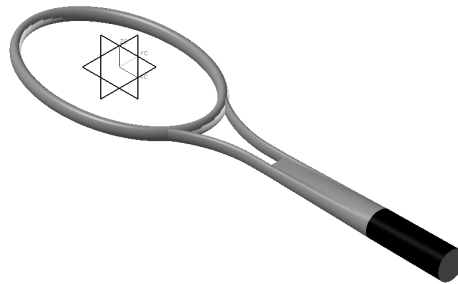
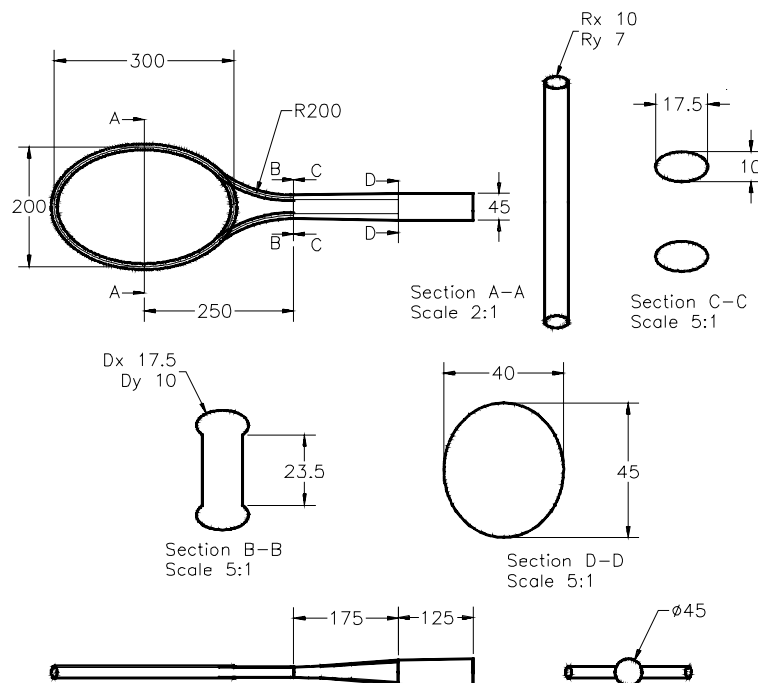
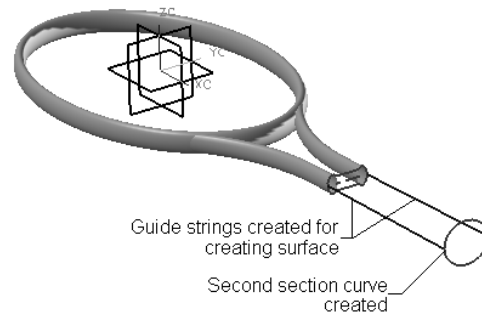

Figure 11-84 The isometric view of the surface model
Figure 11-85 The drawing views and dimensions of the surface model
Figure 11-94 The second section curve and the guide strings created to create the surface
In this tutorial, you will create the surface model shown in Figure 11-84. The drawing views and the dimensions of the surface model are shown in Figure 11-85. After creating the model, save it with the name `\\NX 5\\c11\\c11tut2.prt`. **(Expected time: 45 min)**
5. Select the datum plane created as the sketching plane and create the second primary string, as shown in Figure 11-94. The dimensions can be obtained from Figure 11-85.
6. Select the offset datum plane and create the guide strings, as shown in Figure 11-94.